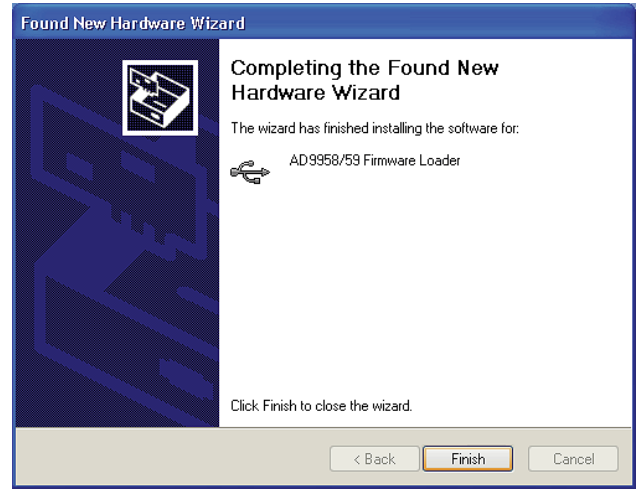

Figure 9.
5. Click **Finish** after this window (Figure 9) appears.